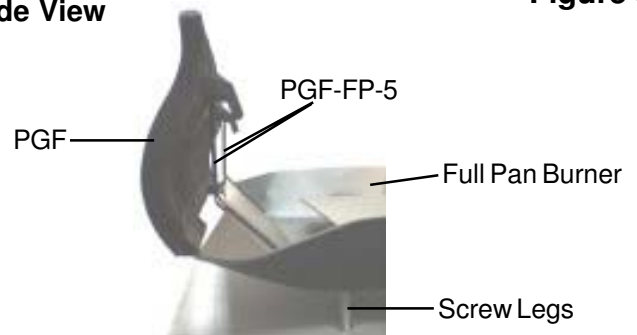

Figure 3
1. The 2 = PGF-FP-5 tabs are used to hang the pedestal grate facing on the full pan burner. (Fig. 3)
4. Attach the (4) screw legs to the bottom of the Full Pan Burner.